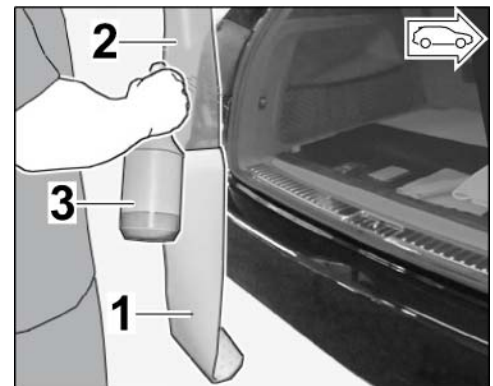

Figure 4
2.1 Pull backing sheet off protective film and coat protective film with fluid mixture (⇒ *Figure 4*).